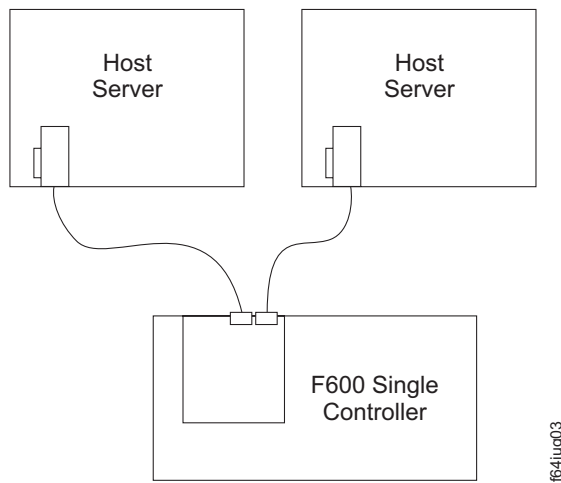

Figure 27. Example of a dual-server configuration with one adapter on each server (Model 6LU/6LX)
- Dual-server configuration with one adapter on each server (Figure 27 on page 30)